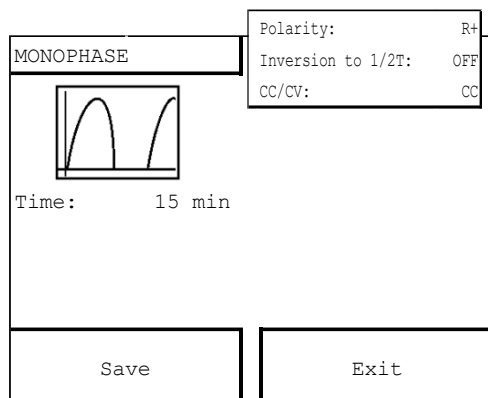

Fig.16
3. Press the encoder knob to confirm your choice: the screen on fig.16 will appear.
The screen in Figure 16 appears in which you can customize the program by changing the selected waveform and / or the values of its characterizing parameters: treatment duration, polarity reversal at mid-term and type of emission.